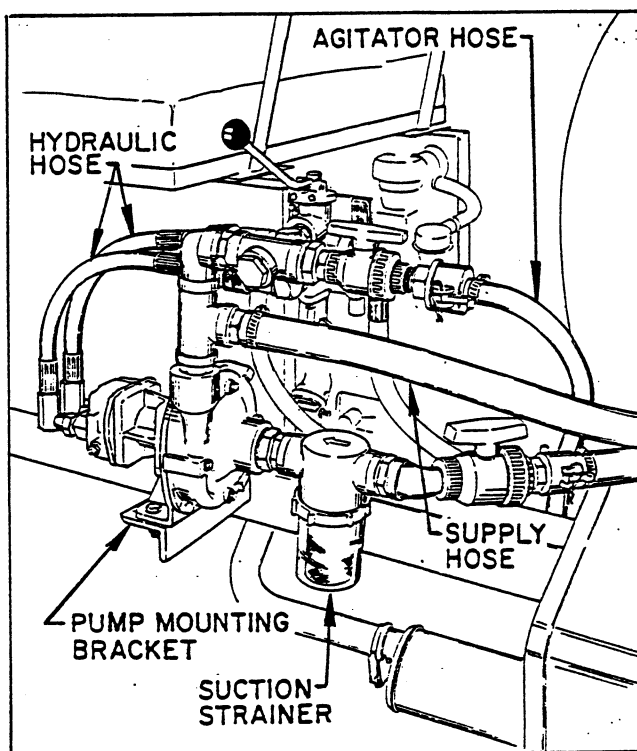

FIG. 3
- Apply thread sealer and install the Fittings, Ball Valves and Qwik-Couplers as shown in FIG. 3, to connect the Supply, Suction and Agitator Hoses.